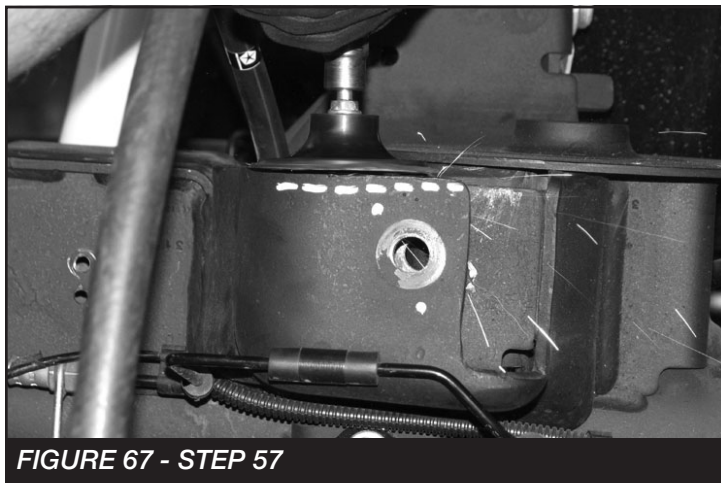

FIGURE 67 - STEP 57
57. Locate the FT44269BK rear track bar support bracket. TRIMMING MAY BE REQUIRED TO INSTALL THE NEW FT44269BK REAR TRACK BAR SUPPORT BRACKET. **SEE FIGURE 67**